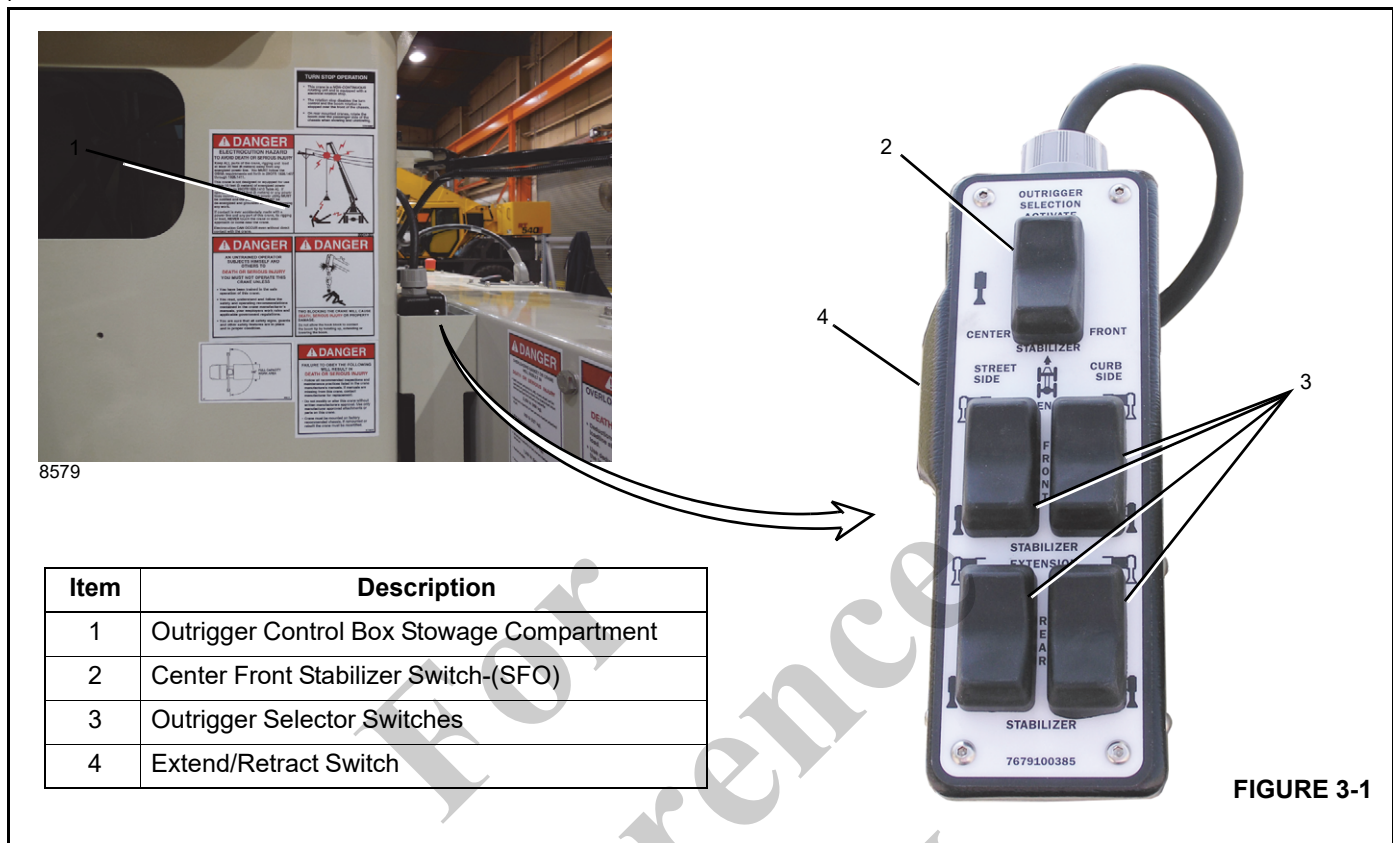

FIGURE 3-1
The hand-held Outrigger Control Box (13) is stowed in a compartment on the front of the control console station (Figure 3-1) and is used to control the outriggers.